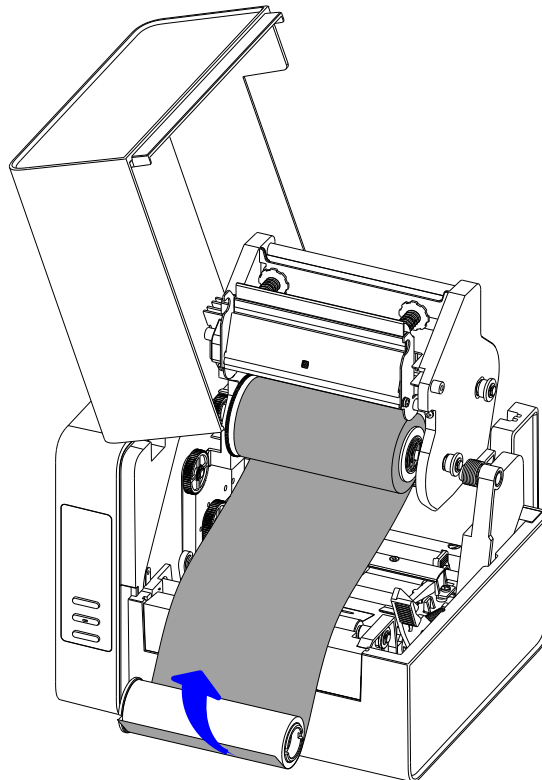

Figure 2-10 Wrap Ribbon on the Core
6. Route the ribbon through the Printhead Module and wrap the end of the ribbon around the spare core, see Figure 2-10.